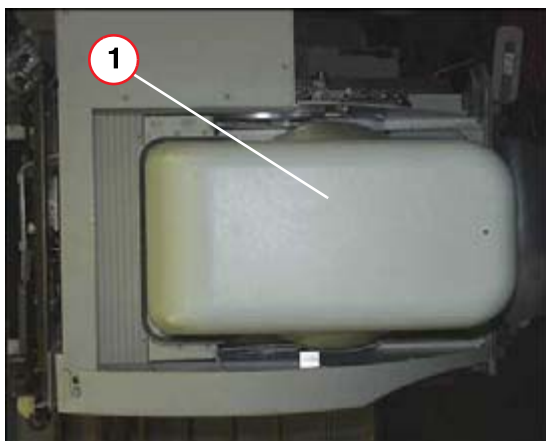

Fig. 91:
- Attach the cover to the I.I. at the bottom (Fig. 91 / p. 78).